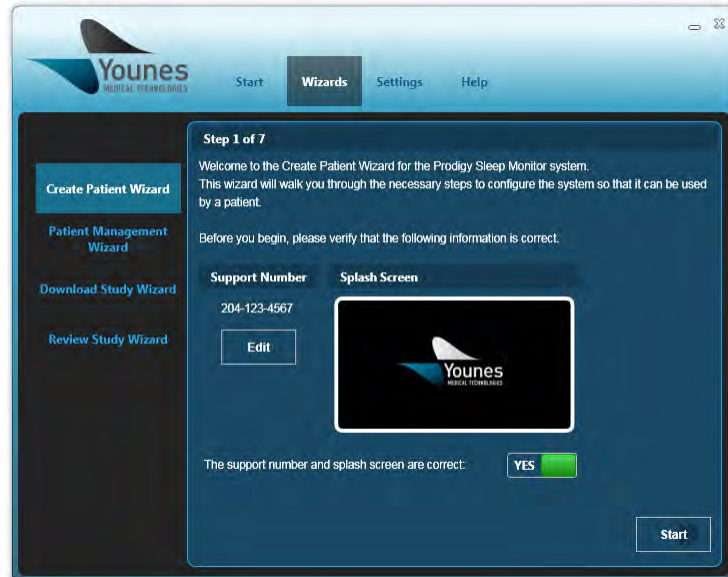

Figure 116 – Windows PC Prodigy Application Welcome Screen with updated Support Number (“Yes”)
9. If the support number and splash screen are correct, select “No.” Upon clicking “No,” the button will change to “Yes,” as shown in Figure 116. Click “Start” to begin.